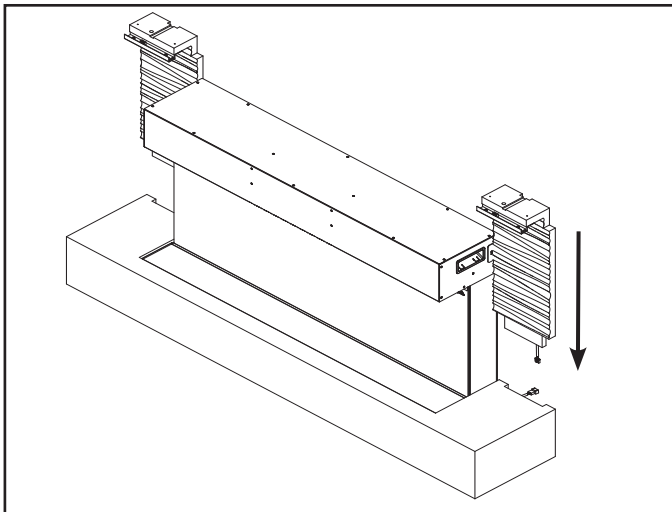

Figure 7
3. Attach the side panel wire connector to the connector on the bottom mantel section. Slide the side panels into the recess between the bottom mantel section and the wall. Take care not to pinch the wire between the side panel and the wall. See Figure 7.